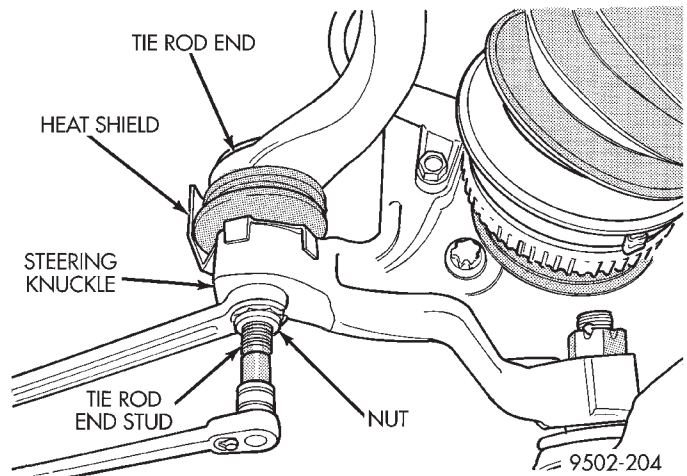

Fig. 5 Removing Tie Rod End Nut
(5) Remove both front wheel and tire assemblies from the vehicle.
(6) Remove nuts attaching both outer tie rod ends to the steering knuckles (Fig. 5). **Nuts are to be removed from tie rod ends using the following procedure, hold tie rod end stud with an 11/32 socket, while loosening and removing nut with wrench (Fig. 5).**